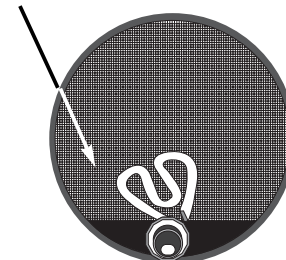

fig. 6
**Important:** make sure that the downward inclination of the condensate drainage outwards is in the range of from 0 to 5% (fig.6): open the unit's front panel and slowly pour water into the internal unit's condensate collection tray and then make sure that the pipe prepared above drains this water correctly.